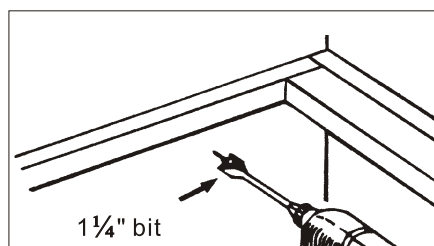

Fig.8
1. After turning off the proper 120 volt circuit at the service entrance, drill out the electrical power line access hole marked on the cabinet bottom or wall. Use a 1 1/4 "wood bit. To operate the electric drill, use an extension cord connected to another circuit. (Fig.8)